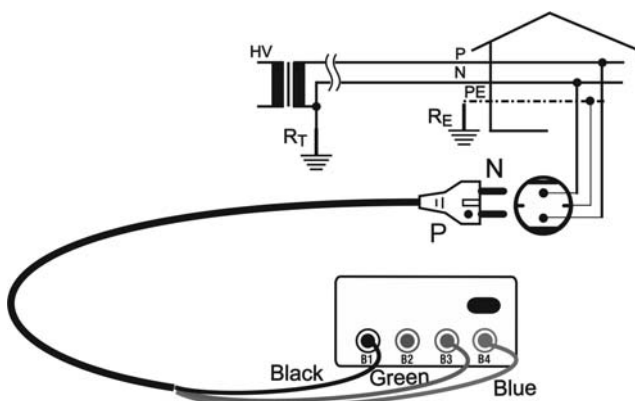
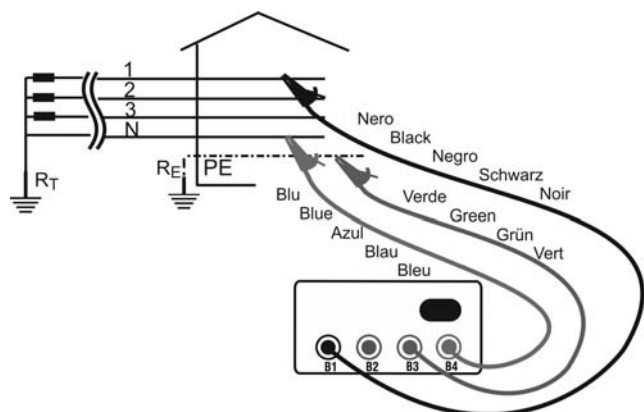

Fig. 7: Connection for measuring Loop impedance of single-phase/two-phase 230V system
Fig. 8: Connection for measuring Loop impedance of three-phase 400V system
2. Insert the 3 Black, Green, Blue connectors of the three-pin shuko cable or of the separate cables into the relevant instrument input terminals **B1**, **B3**, **B4** (see Fig. 7, Fig. 8). In case separate cables are used, insert alligator clips on the free cable ends.
3. Insert the Shuko plug into a 230V 50Hz socket or the alligator clips onto the conductors of the three-phase system (see Fig. 7, Fig. 8)